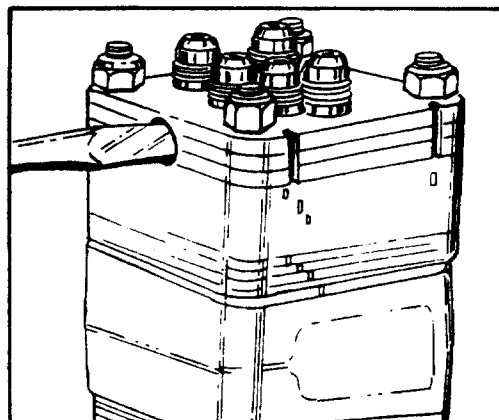

FIGURE 4.
2. Loosen plug (6) or hex plug (6A) assembly in the port cover (2) for disassembly after the port cover is removed from the unit. Use an appropriate type screwdriver, T-30 Torx driver or 7/8 inch hex socket. See figure 4.